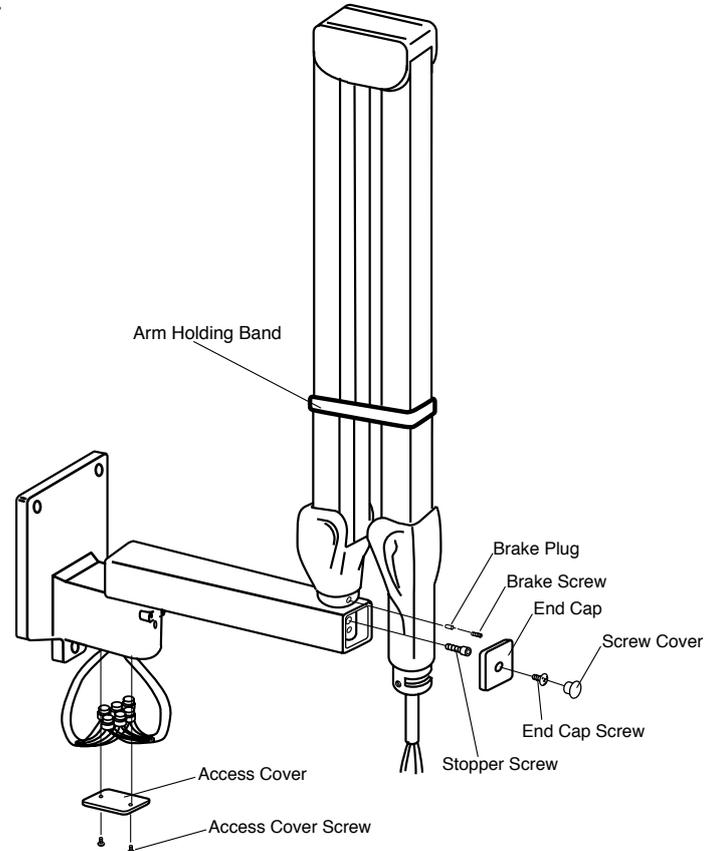

FIGURE 4a
E. BALANCE ARM ASSEMBLY (FIGURE 4a):